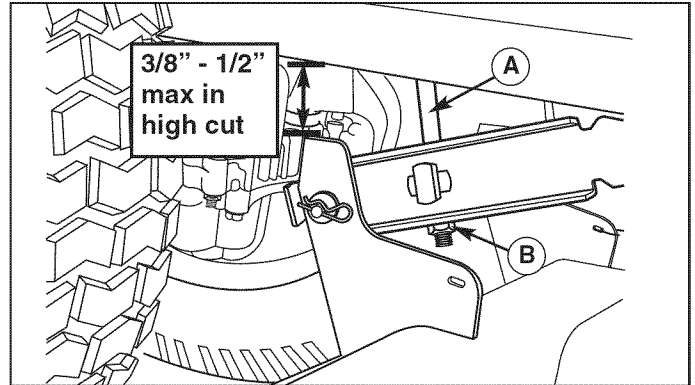

Figure 39. Leveling The Mower Side-to-Side
5. Turn the locknut (B, Figure 39) to raise or lower that side of the mower.
Note: The maximum the mower can be adjusted in high cut is 3/8" to 1/2" between the frame and mower up-stop. See Figure 39.